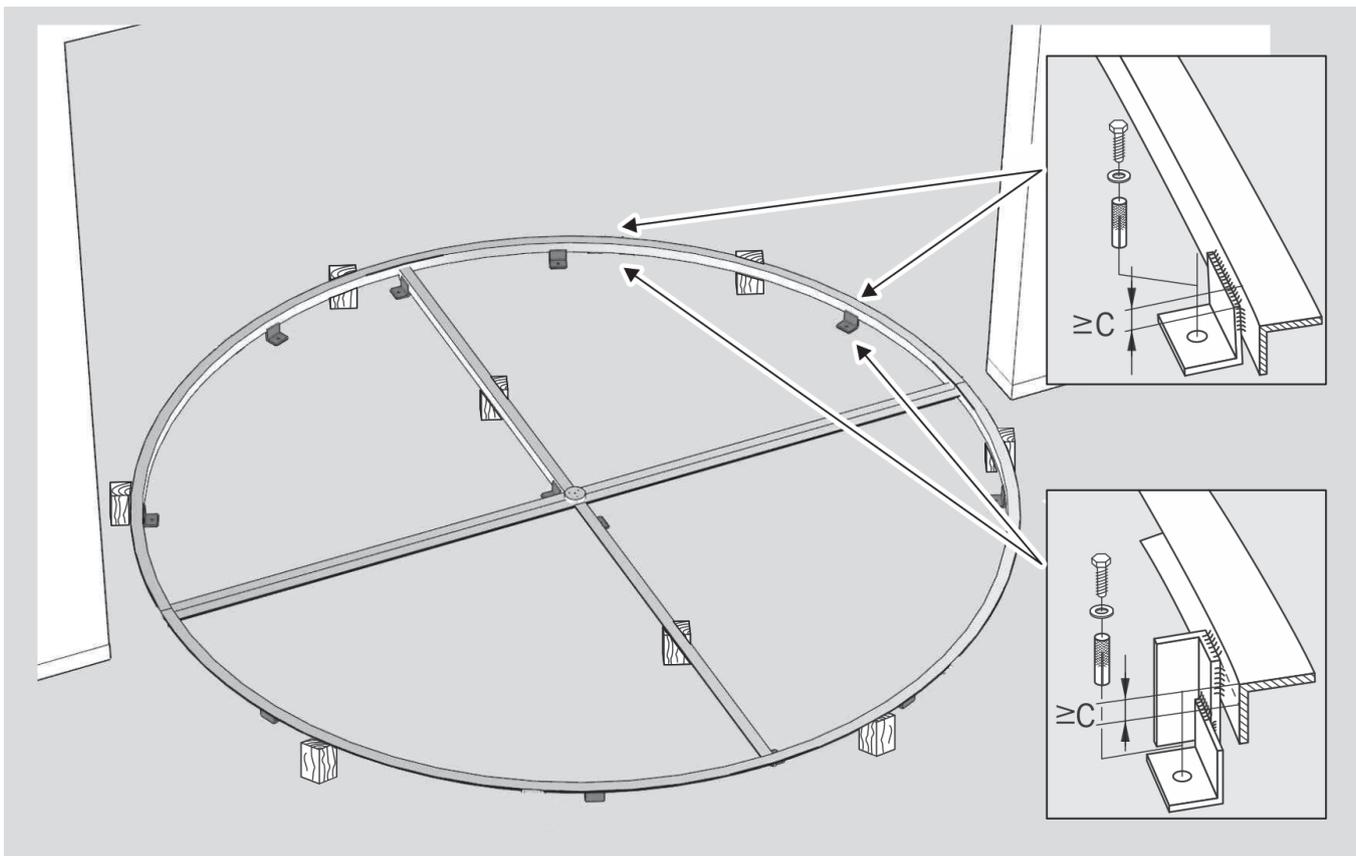

Fig. 32 Floor ring height adjustment
1. Depending on the height difference, place the base on the floor ring (Fig. 32) according to variant 1 or 2 (Fig. 32/1 or 2).
7. Align base (Fig. 32/1 or 2) with holes and floor ring (Fig. 32).
8. Fit base (Fig. 32/1 or 2) in ground.
Weld base (Fig. 32/1 or 2) to floor ring (Fig. 32), wear welding mask and protective apron when doing so.